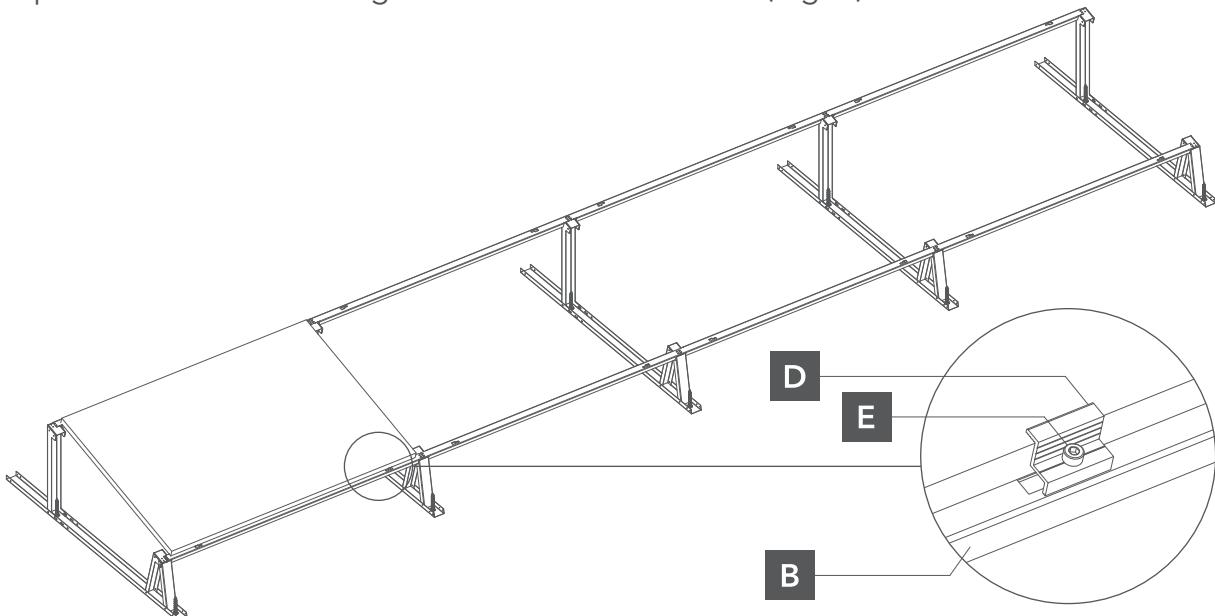

Fig. 5. attachment of the modules to the support system.
- 5** On the roof battens we put the first, outermost photovoltaic module and hold it, to mount the end clamps. The screw terminals are equipped with M8 Allen screws and nuts. This procedure must be repeated for mounting all modules in the row. Repeated for the mounting of all modules in the row (Fig. 5).